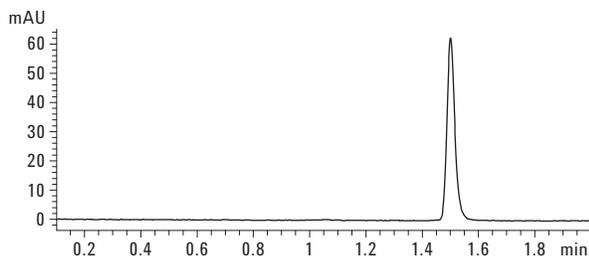

Figure 1. ZORBAX HILIC Plus QC chromatogram.
A typical quality control (QC) chromatogram for a 4.6 mm × 100 mm, 3.5 μm ZORBAX HILIC Plus column is shown in Figure 1. The QC test with the performance of your column is shown on the Column Performance Report enclosed with your column.